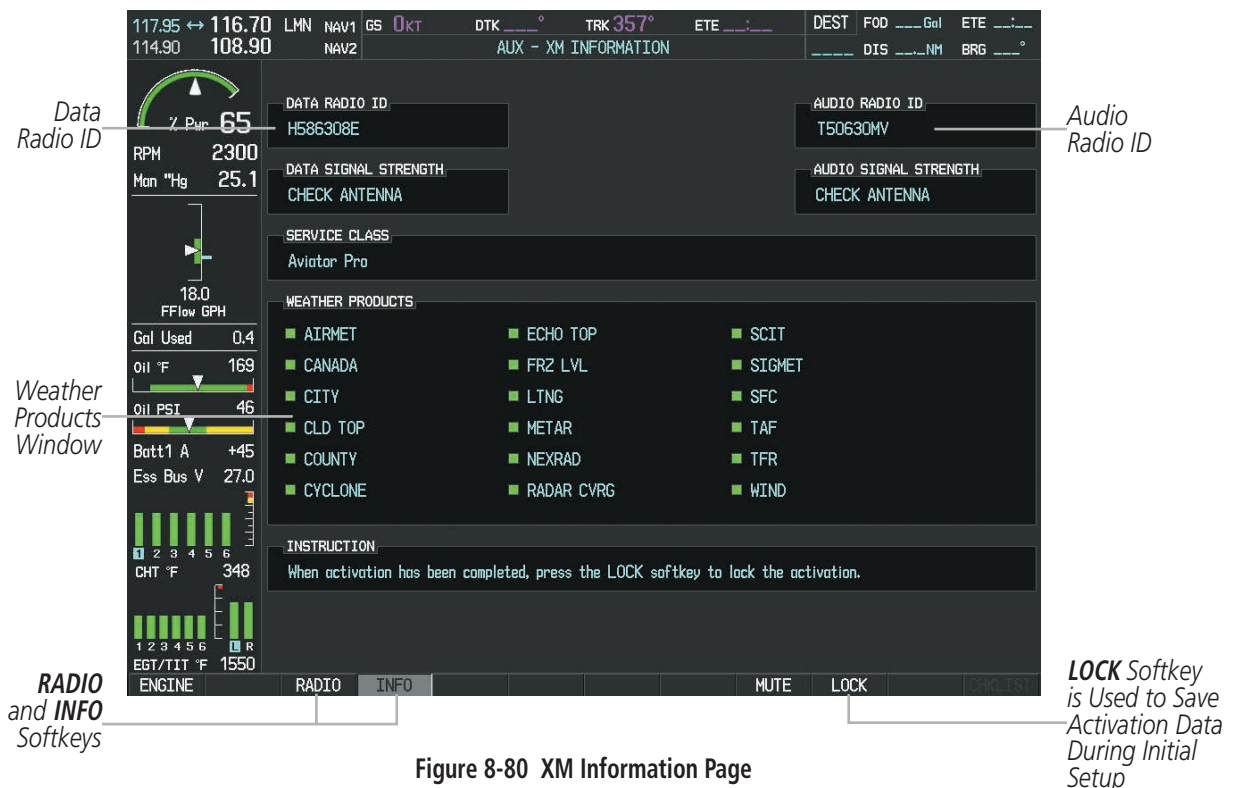

Figure 8-80 XM Information Page
- On the XM Information Page on the MFD (Figure 8-80)